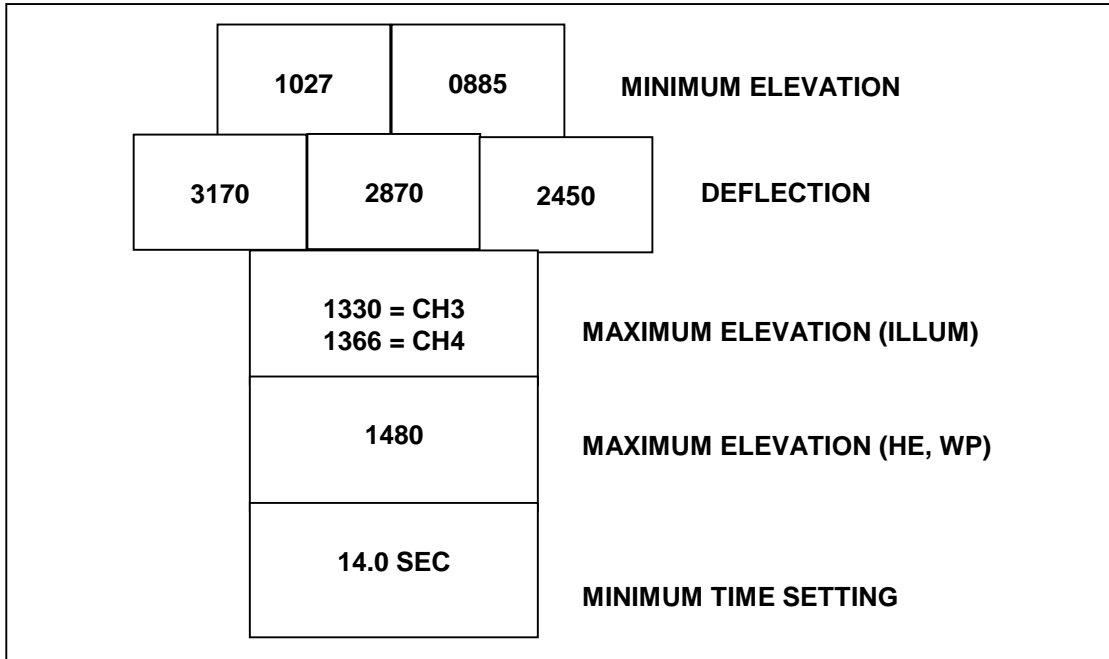

Figure B-4. Safety T.
d. The safety T is a method of passing safety data on to the mortar squad leaders in a simplified form. The information needed by the squad leader is extracted from the completed safety diagram and placed on a 3-inch by 5-inch card or similar form. Figure B-4 shows the safety T taken from the completed range safety diagram.